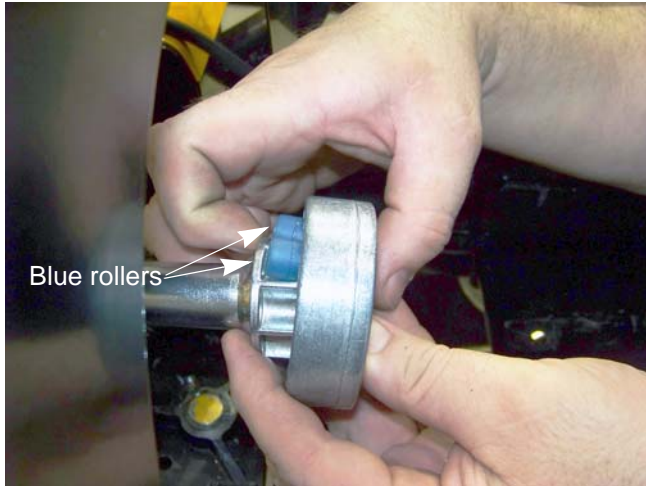

Figure 2.26
- Insert the rollers in between the drive shaft end and the coupler housing one at a time, until all eight are in place. See Figure 2.26.